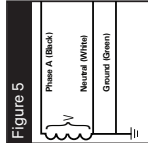

Figure 5
- 120N = 120V Single Phase (Fig 5)
- 127N = 127V Single Phase (Fig 5)
- 220N = 220V Single Phase (Fig 5)
- 230N = 230V Single Phase (Fig 5)
- 240N = 240V Single Phase (Fig 5) - Not split phase
- 254N = 254V Single Phase (Fig 5)
- 277N = 277V Single Phase (Fig 5)
- 400D = 300V Single Phase (Fig 5)